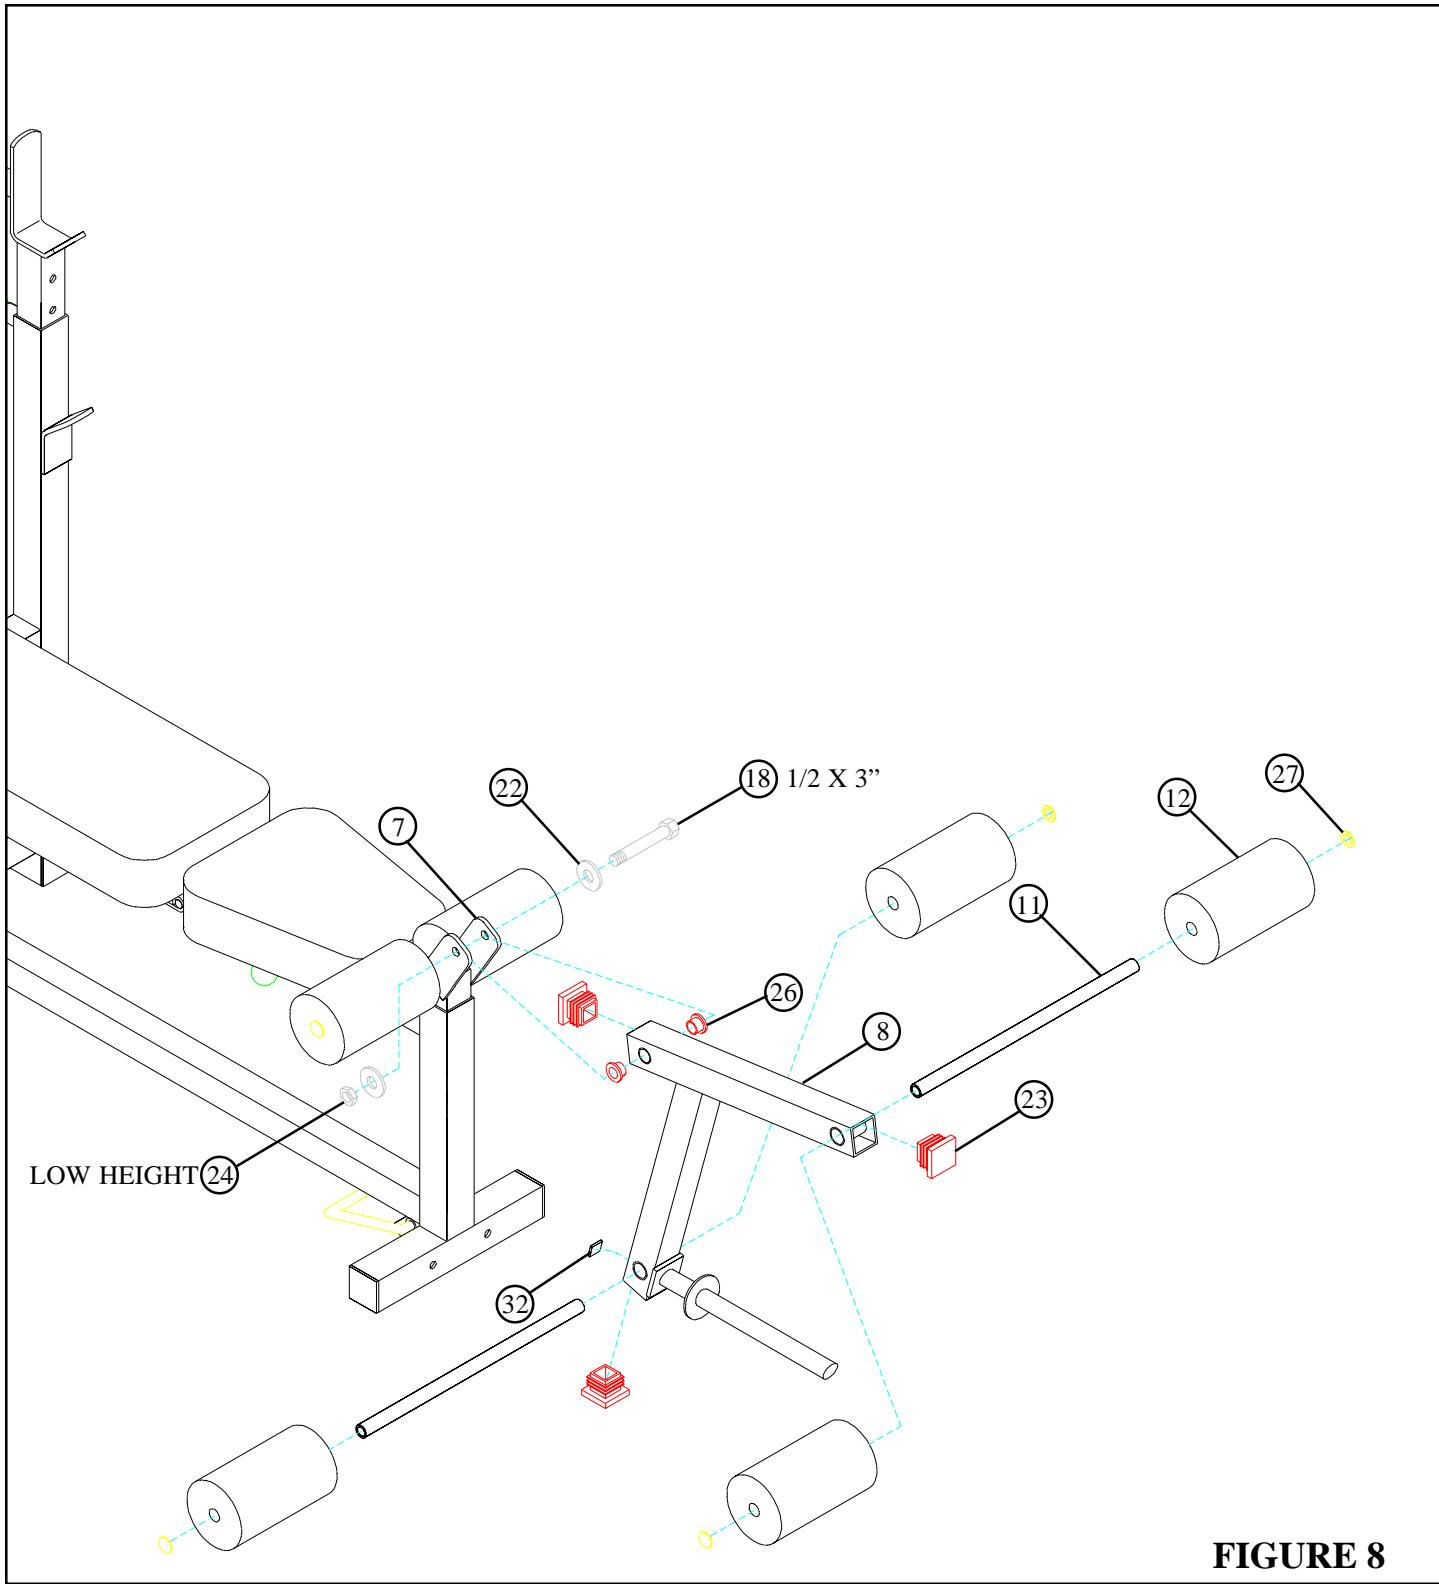

FIGURE 8
- Insert three 1-3/4" SQ. END CAPS (23) into the ends of the LEG EXTENSION (8) as shown in FIGURE 8.
- Insert two 1/2" FLANGE BEARINGS (26) into the BUSHING on the LEG EXTENSION (8) as shown in FIGURE 8.
- Assemble the LEG EXTENSION (8) to the LEG EXTENSION NECK (7) as shown in FIGURE 8, using one 1/2 X 3" BOLT (18), two 1/2" WASHERS (22), and one 1/2" LOW HEIGHT LOCK NUT (24). (**TIGHTEN THE CONNECTION ENOUGH TO REMOVE THE PLAY, YET ALLOWING THE LEG EXTENSION TO ROTATE FREELY**)
- Assemble four ROLLER PADS (12) to the LEG EXTENSION (8) as shown in FIGURE 8, using two ROLLER PAD SHAFTS (11), and four 3/4" STARLOCK COLLARS (27).
- Attach one 3/4" SQ. RUBBER BUMPER (32) to the LEG EXTENSION (8) approximately where shown in FIGURE 8.